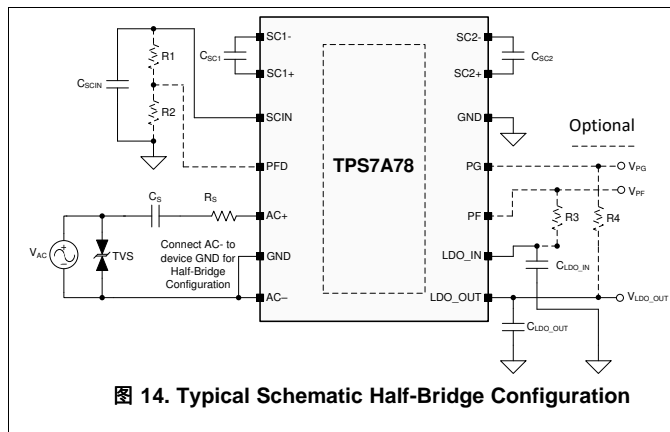

图 14. Typical Schematic Half-Bridge Configuration
The TPS7A78 can be configured to operate either in full-bridge (FB) or half-bridge (HB) configurations. HB configuration ties the AC input pin without the series  $C_S$  and  $R_S$  components to the device GND pins. See 图 14 and 图 15 for the HB and FB configurations.
The TPS7A78 can monitor the rectified DC voltage at the SCIN pin to provide the application with an early warning via the power-fail (PF) pin if the main power fails. An external resistor-divider network connected to the VSCIN pin provides the input to the power-fail detect (PFD) analog input pin to monitor for an AC line supply failure. When the AC supply falls below its minimum level programmed by the resistor divider  $R_1$  and  $R_2$ , as illustrated in 图 14 and in 图 15, the PF output is pulled low. If this feature is not used, omit  $R_1$  and  $R_2$  and connect PFD and PF pins to the device GND pins reference.
The TPS7A78 is a non-isolated smart AC/DC linear-voltage regulator capable of providing a maximum 120-mA load current; see 图 14 and 图 15 for the HB and FB configurations, respectively.
All the capacitors illustrated in 图 14 or 图 15 are required for proper operation. The value of  $C_S$  required to support the application current is obtained from the Calculating the Cap-Drop Capacitor  \$C\_S\$  section. The chosen  $C_S$  capacitor must tolerate the peak  $V_{AC}$  supply voltage of the application and meet the required safety requirements.